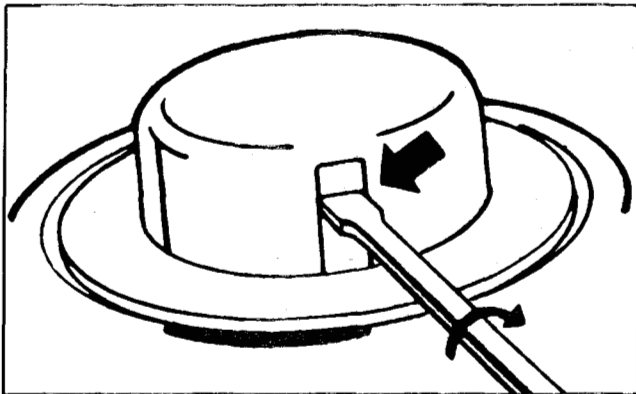

Figure 111
1. Insert a medium blade screwdriver into one of the two slots on the bottom of the spool and twist 1/4 turn to release the spool. See Fig. 111.